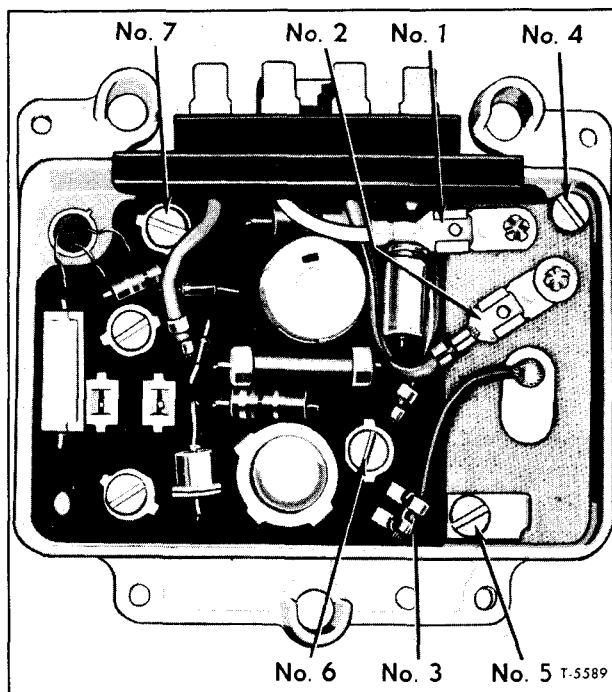

Figure 24—Regulator with Cover Removed
2. Referring to figure 24, remove leads from terminals 1, 2, and 3, then remove screws 4 and 5 which attach relay to base and remove relay.
3. Remove screws (6 and 7, fig. 24), then lift circuit board, heat sink and terminal assembly from the regulator base.